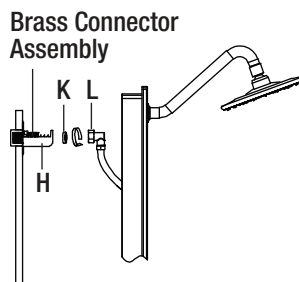

Fig. 18
- Connect L-fitting (L) to brass connector assembly using restrictor (K), see Fig. 18.